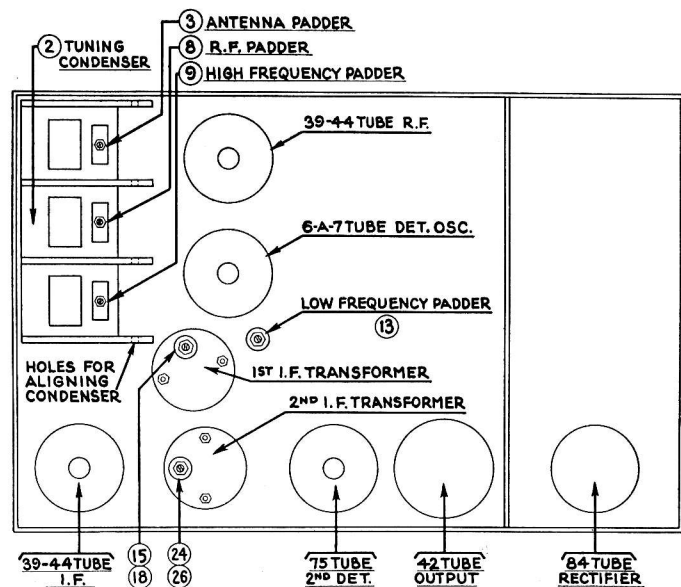

FIG. 2
Remove the speaker lid from the Receiver and disconnect the antenna lead from the Receiver. Remove the grid cap from the 6A7 tube (for location see Fig. 2).
Set up the signal generator and adjust it to exactly 260 K. C. Connect the generator lead to the grid cap of the 6A7 tube. (See Fig. 2.) The output meter must be connected by means of an adapter to the small prong of the speaker plug and to the chassis.
The padders (24) and (26) are adjusted first (Figs. 2 and
3.) Turn the adjusting screw (24) all the way in. A metal screw driver can be used for this. Then, with generator attenuator set so there is approximately half-scale reading, adjust the nut (26) with a fibre wrench for the maximum reading on the output meter.
There are four holes in line, one in each of the sections of the tuning condenser housing. (See Fig. 2.) Place a nail of the size that fits snugly through the holes and then turn the condenser plates out of mesh until they strike against the nail.